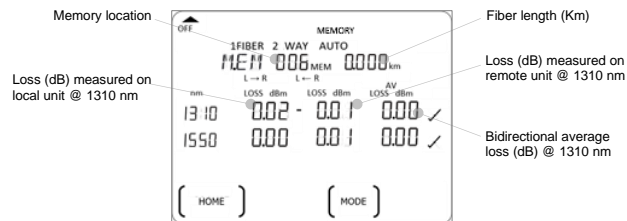
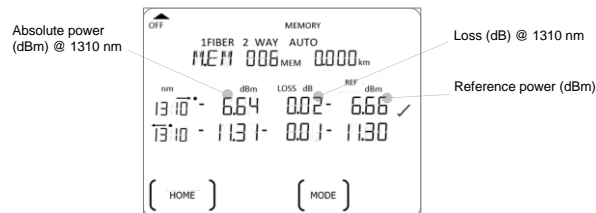

Figure 4. Memory display of Two-Way Autotest (Test summary)
Figure 5. Memory display of Two-Way Autotest (Test detail)
- [For data saved in 2-way Autotest mode only]: As default, a test summary for losses at each direction and their averages is displayed (see Figure 4 at the end of this section for an LCD display sample). To change to display test detail for absolute power, loss, reference power of each direction, (see Figure 5 for an LCD display sample) press **F3**. Press **F3** again to display optional ORL values (see Figure 6 for an LCD display sample). Press **F3** again now will return to default display.